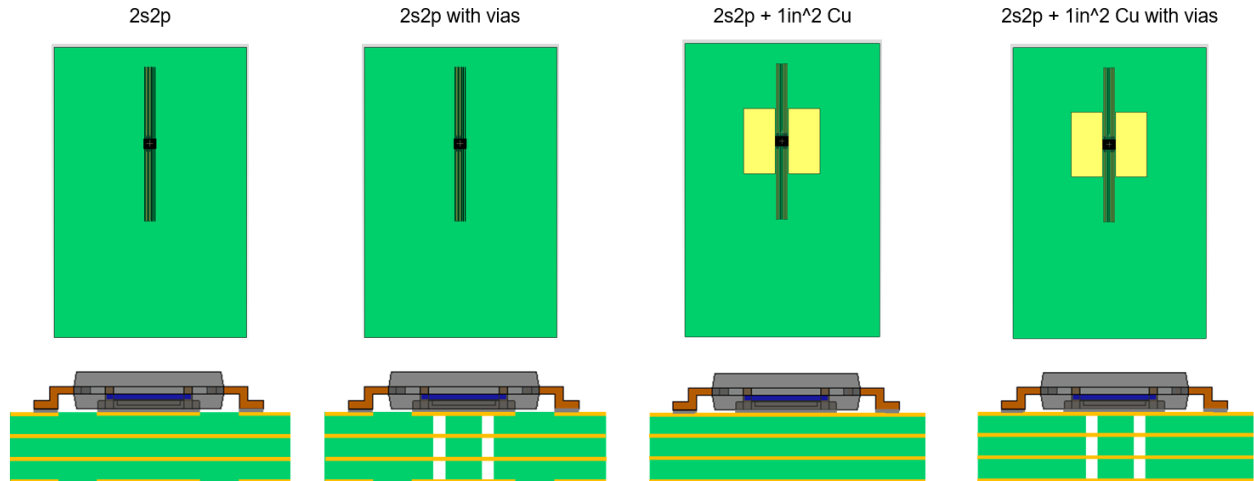

Figure 3. Board Construction for Thermal Performance
5. Board construction based on JEDEC JESD 51–7 for a four layer 2s2p board with forced air convection. Vias were added under the exposed pad as shown in Figure 3.